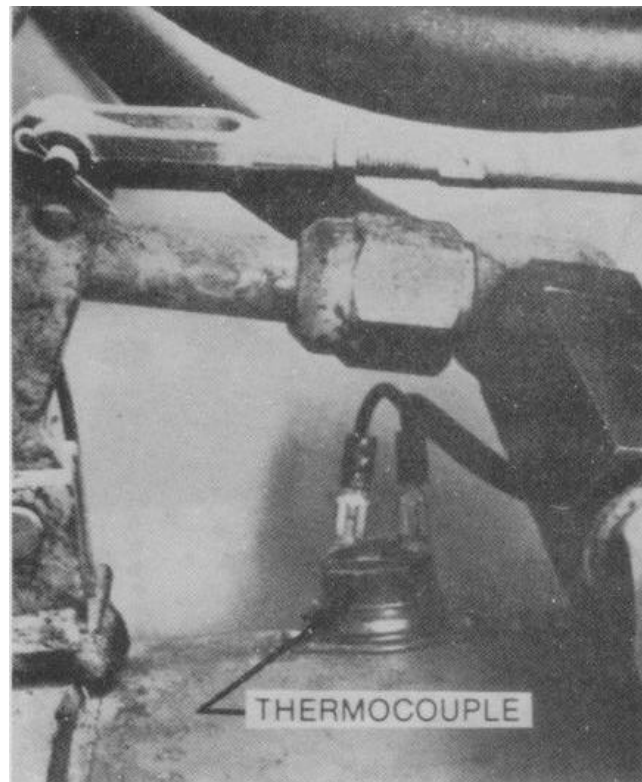

Figure 3-3
3.15 An open thermocouple switch on the traction motor will prevent power contactors "F" and "R" from closing. The switch is located on the motor frame near the parking brake linkage (Fig. 3-3).